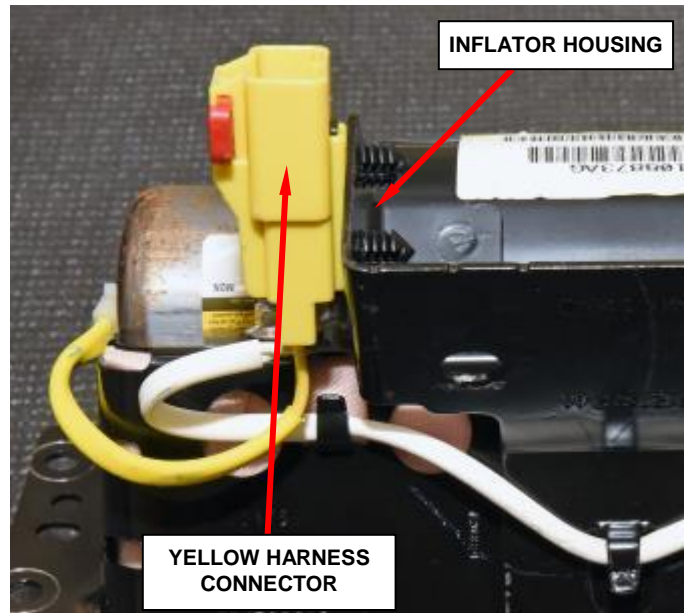

Figure 50 – Wire Harness Connector
c. Release the yellow wire harness connector from the inflator housing bracket (Figure 50).